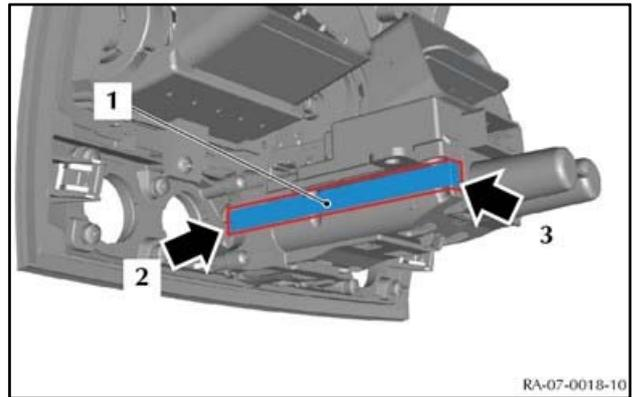

Figure 12
15. Apply a strip of PVC insulation tape to the metal strap (1) on the left side of the ignition module (refer to Figure 12). Make sure that you fold the insulation tape around the two ends (2 and 3) of the metal strap. You must cover all of the metal strap.